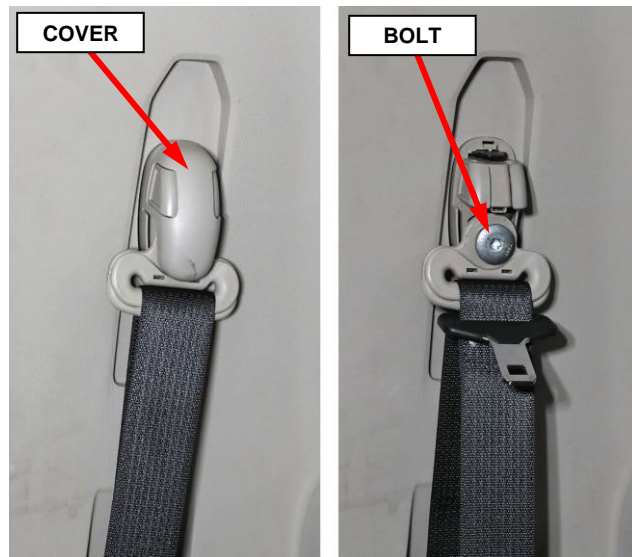

Figure 23 – Seat Belt Turning Loop
- On the B-pillar, separate the seatbelt turning loop cover then remove the turning loop bolt (Figure 23).